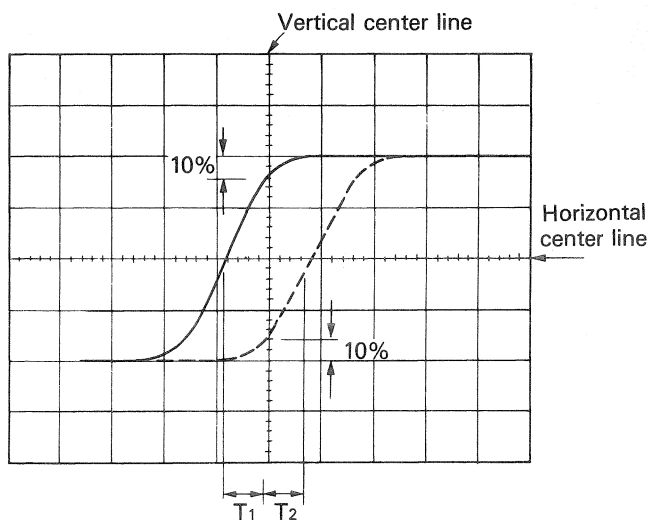

Fig. 7
- b) The horizontal position control is set so that the vertical center line crosses the rising (falling) curve at a point 10% below the peak amplitude. Then the length between the point where the curve crosses the horizontal center line and the screen center (T_1) is read out. (See Fig. 7)